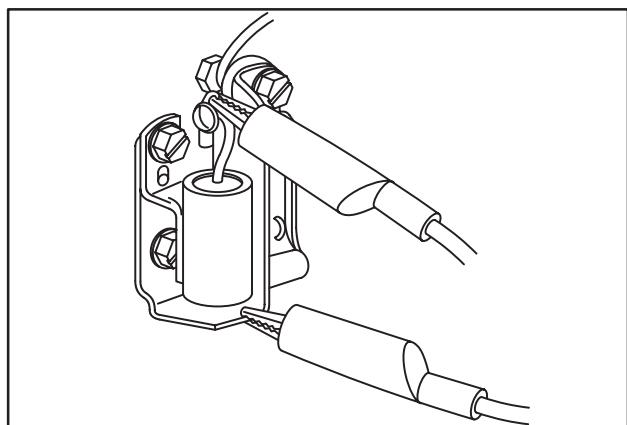

Fig. 73 – CONNECTING DIGITAL MULTIMETER #19357
4. Using Tool #19357 Digital Multimeter Meter, Fig. 73, set meter to ohms ( $\Omega$ ) and connect one test lead to breaker point primary lead.